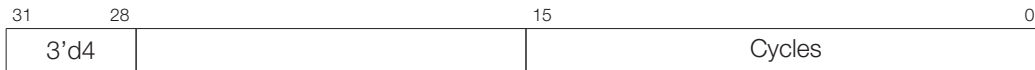

Figure 152: Instruction Type – WAIT
**Operand**    **Description** - see Figure 152